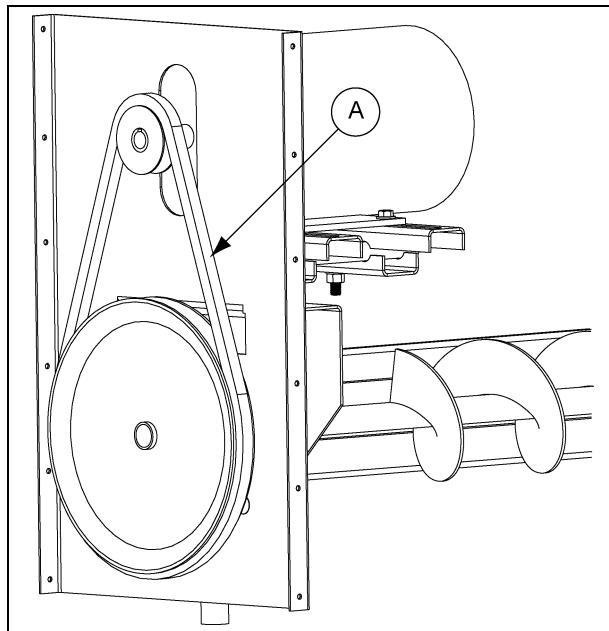

Figure 4U
Step 21: Fit drive belt. (See Figure 4U.)